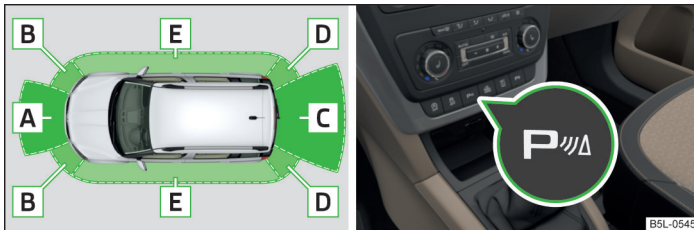

Fig. 119 Range of sensors / system button
- If a warning signal sounds for about 3 seconds after activating the system and there is no obstacle close to your car, this indicates a system fault. The fault is also indicated by the symbol  flashing in the button » Fig. 119 on page 141 . Seek help from a specialist garage.
Area » Fig. 119	Range of sensors
On vehicles equipped with a factory-fitted towing device, only system areas **A** and **B** » Fig. 119 are active when towing a trailer.
The system is automatically activated by selecting **reverse gear** or pressing the symbol button **P** » Fig. 119 on page 141. The symbol **P** lights up in the button; activation is confirmed by a brief acoustic signal.